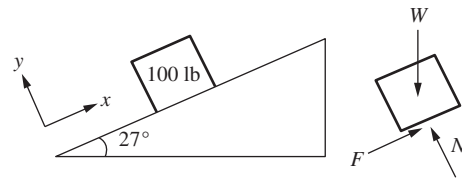

Figure P4.34 A crate resting on a ramp for problem P4-34.
4-34. A crate of weight $W = 100$ lb sits on a ramp oriented at 27 degrees relative to ground, as shown in Fig. P4.34. The free-body diagram showing the external forces is also shown in Fig. P4.34.
- Using the x - y coordinate system shown in Fig. P4.34, write the friction force \vec{F} and the normal force \vec{N} in rectangular vector notation (i.e., in terms of unit vectors \hat{i} and \hat{j}).